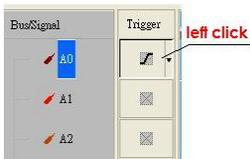

Fig 4-16 – Trigger Left click
1. Left click  to set the signal trigger edge as shown in Fig 4-16.